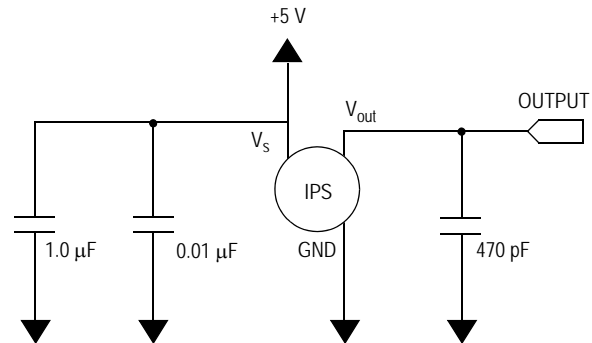

Figure 3. Recommended Power Supply Decoupling and Output Filtering (For additional output filtering, please refer to Application Note AN1646.)
**Table 1. Operating Characteristics** ( $V_S = 5.0$  Vdc,  $T_A = 25^\circ\text{C}$  unless otherwise noted,  $P_1 > P_2$ . Decoupling circuit shown in Figure 3 required to meet specification.)
Figure 3 illustrates the Differential or Gauge configuration in the basic chip carrier (Case 482). A fluoro-silicone gel isolates the die surface and wire bonds from the environment, while allowing the pressure signal to be transmitted to the sensor diaphragm.